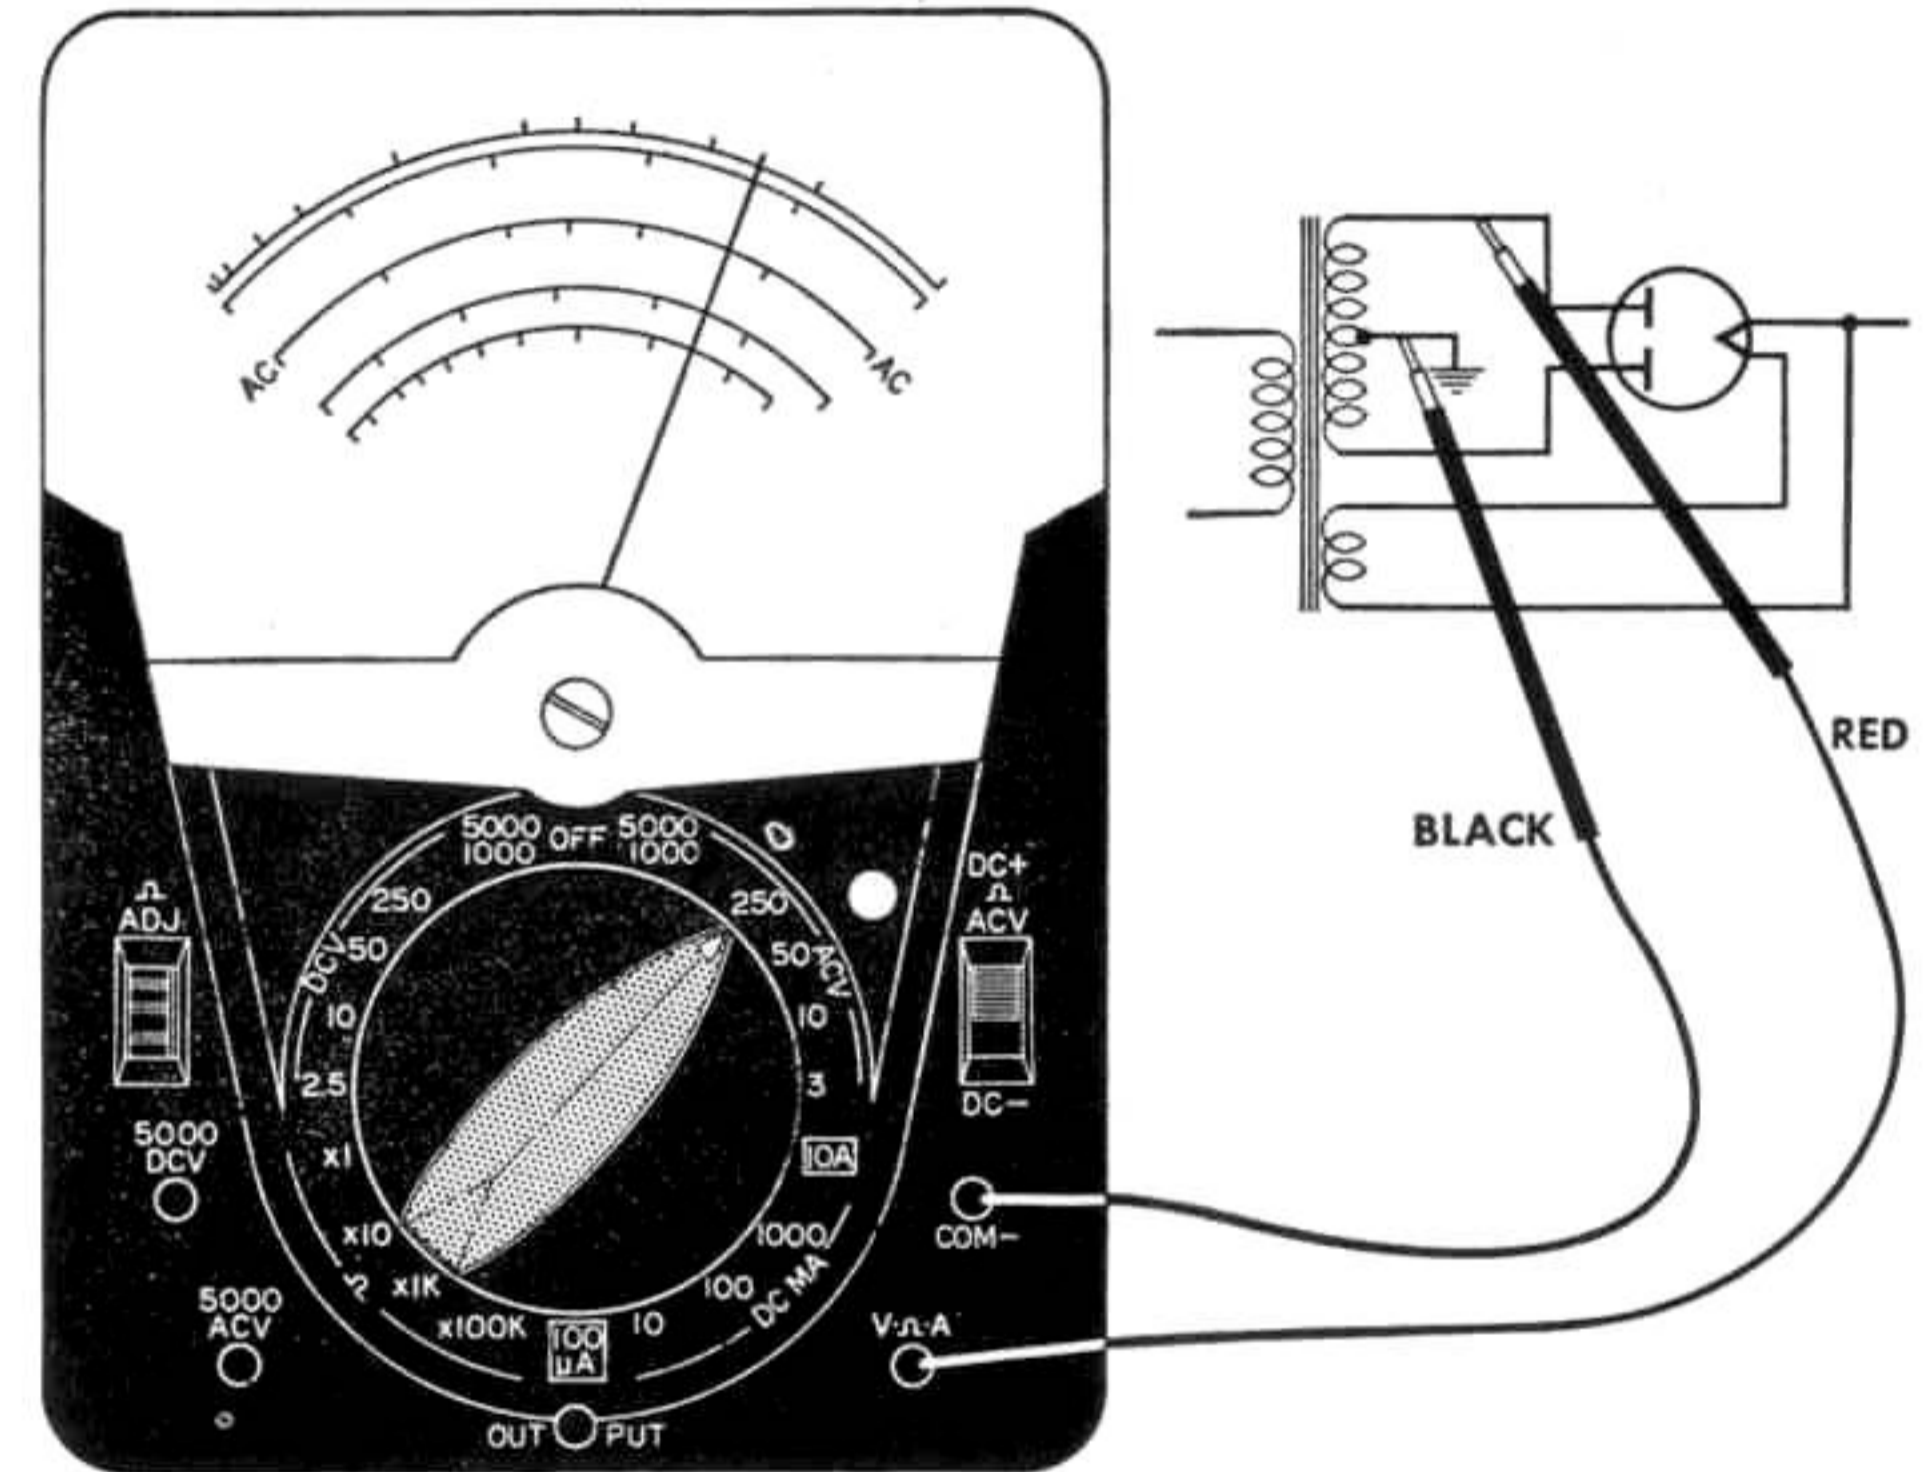

Fig. 2. Measuring AC Volts.
3. Connect the test probes across the voltage to be measured as shown in Fig. 2.
4. Connect the test probes across the voltage to be measured as shown in Fig. 2.